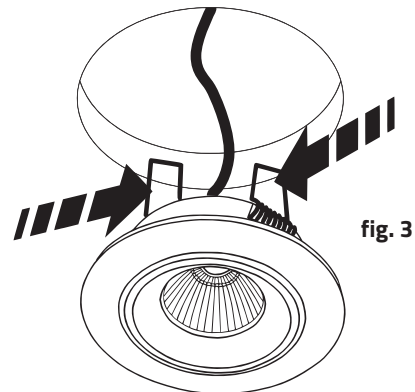

fig. 3
3. Press the springs together and place the downlight in the sawn out hole (fig. 3).